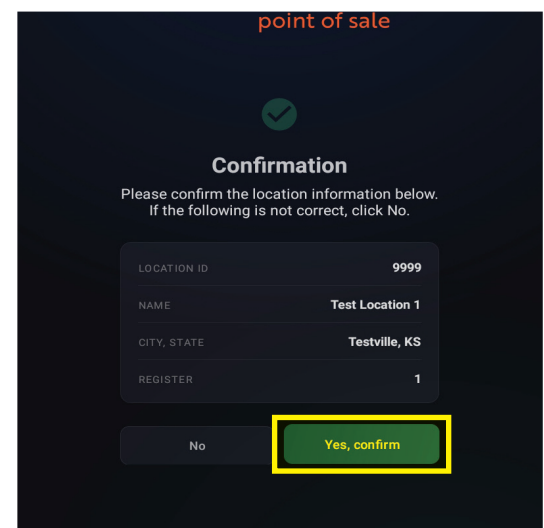

Figure 27
11. Confirmation Screen – select YES button (Figure 27).